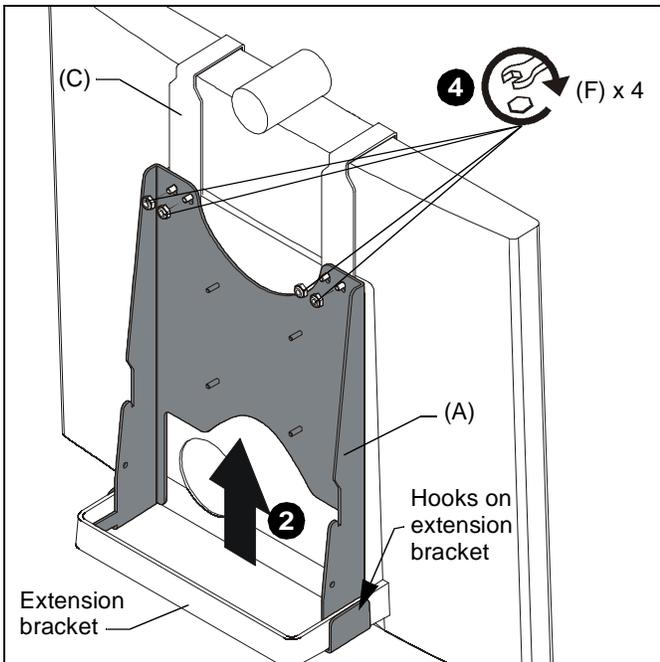

Figure 2
2. Slide interface bracket (A) up from bottom along back of display, ensuring that bottom of interface bracket hooks the extension bracket on back of display. (See Figure 2)
3. Hang interface bracket onto studs at bottom of clips (C). (See Figure 2)
4. Fasten interface bracket to clips using four #10-24 locknuts (F). (See Figure 2)